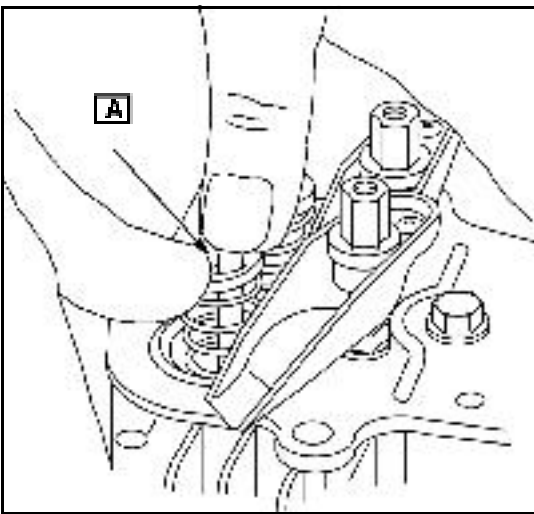

Fig. 23
2. Place retainer (A) on spring. Depress retainer with thumbs to compress spring, Fig. 23.